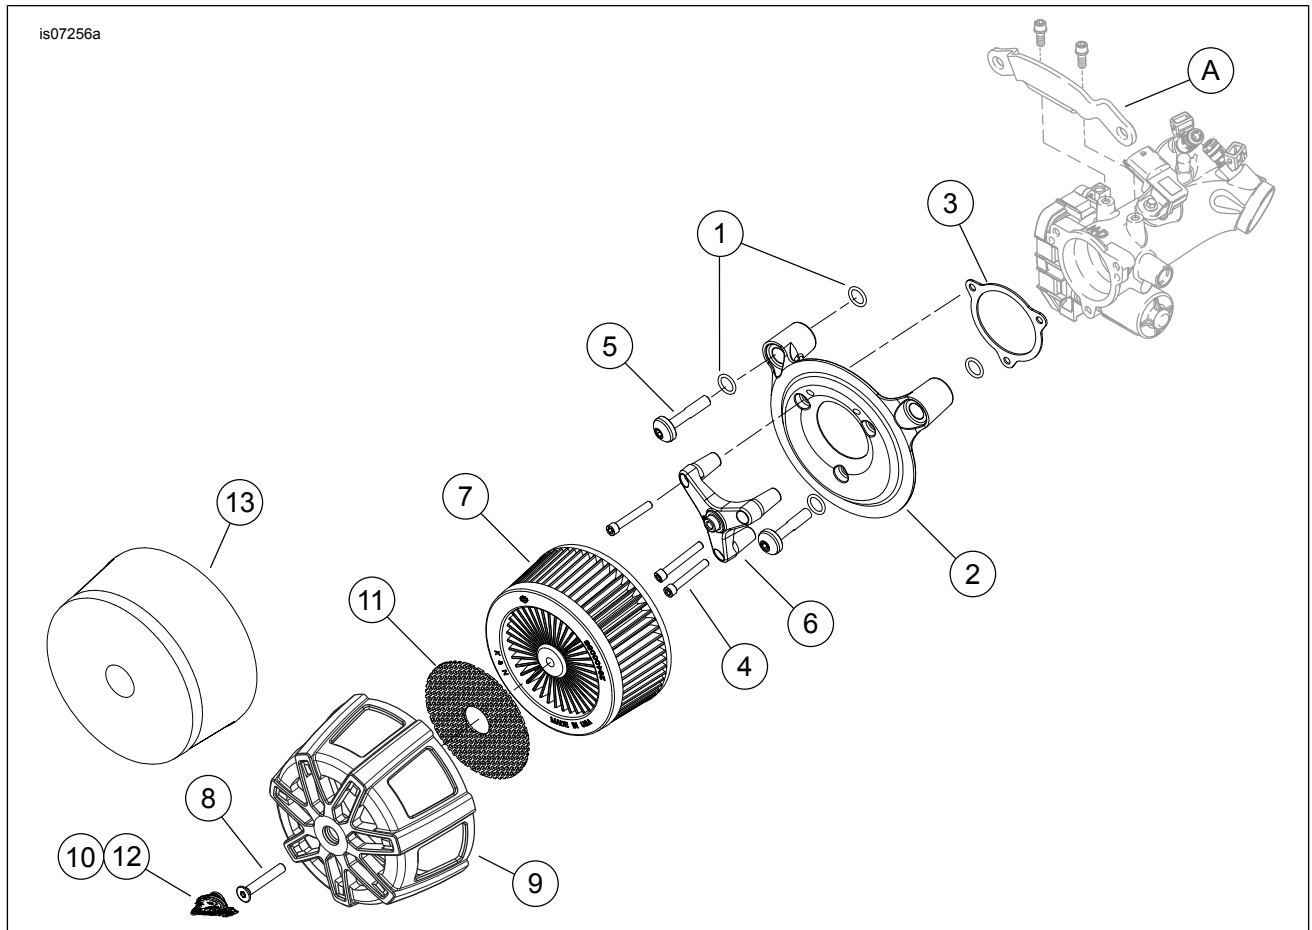

Figure 1. Service Parts, Screamin' Eagle Performance Air Cleaner Kit
See Figure 1 and Table 1.
4. See Figure 1 and Table 1. Remove and recycle or properly dispose of the induction module support bracket (A).
1. See Figure 1. Install two O-rings (1) from kit in grooves around breather screw holes on induction module side of backplate assembly (2). Install two O-rings (1) from kit in grooves in underside of head of breather screws (5).
2. Peel the protective strip off the gasket (3) and place the adhesive side onto the backplate. Align to the equally spaced screw holes, and position the gasket carefully before firmly pressing the gasket into place.
4. Insert new breather screws (5) through the backplate.
6. Install air cleaner mounting screws (4) through the mounting bracket (6) and into the backplate (2) until the screw threads are captured in induction module. Leave fasteners loose.
7. Alternately tighten two breather screws (5) to 13.6–16.3 N·m (120–144 in-lbs).
8. Tighten three air cleaner screws (4) to 6.2–6.8 N·m (55–60 in-lbs).
1. See Figure 1. Install the air cleaner element (7), air filter screen (11), and cover (9). Before tightening the center screw, align the cover using the medallion for best appearance. Tighten center screw to 4.1–6.8 N·m (36–60 in-lbs).